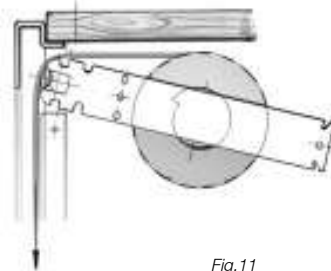

Fig. 11
- Remove the adhesive tape securing the shutter carpet and insert the shutter carpet via the guide roller into the running tracks. (Fig. 11)